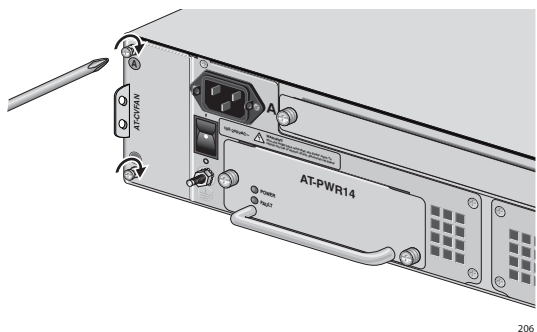
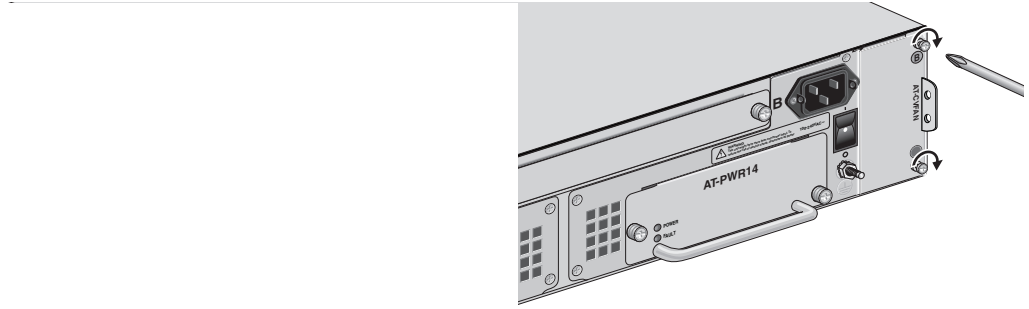

Figure 64. Tightening the Screws on the AT-CVFAN Module in Slot A.
Figure 65. Tightening the Screws on the AT-CVFAN Module in Slot B
- 7. Tighten the two captive screws on the fan module, as shown in Figure 64 or Figure 65.